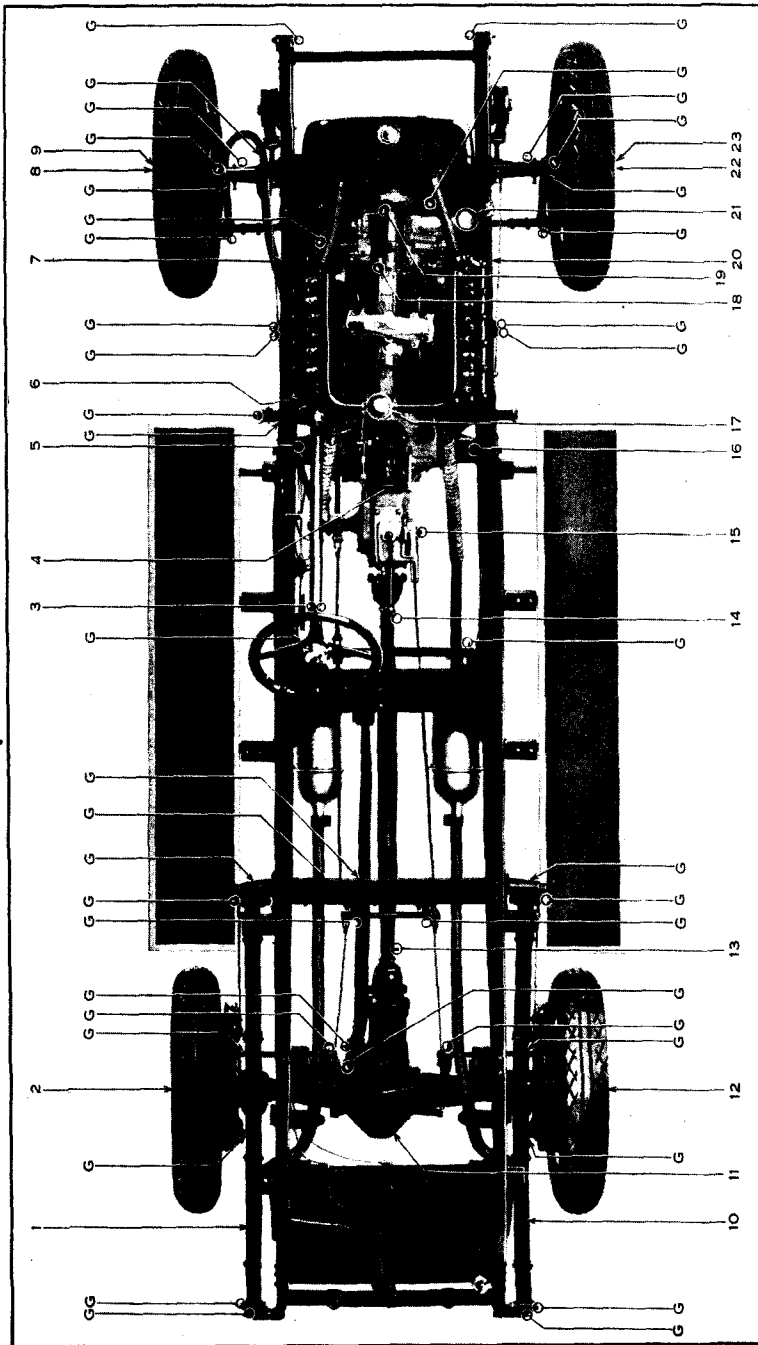

FIGURE 11. Chassis lubrication diagram
The schedule on page 36 is in outline form. Detailed information as to the location of the points to which lubricant is to be applied, the method of lubricating, and the kind and amount of lubricant will be found in Chapters VI and VII. For each point on the schedule, two reference numbers are given: the number of the page on which detailed directions will be found and the number designating the point on the chassis lubrication diagram (Fig. 11).
Spring bolts, steering connections, brake rocker shafts and other points are provided with connections to fit the grease gun supplied with the tool equipment. These points are indicated by "G" in Fig. 11. Cadillac Roller Bearing and Cup Grease should be applied to these points with the grease gun every 500 miles.
The lubricating joint on the clutch thrust bearing is fitted with a screw plug shown at "G" (Fig. 22). To reach this plug, remove the floor boards and the cover plate shown at "F" (Fig. 11) and turn the thrust bearing until the plug is uppermost. Remove the plug with a screw driver, taking care not to drop the plug into the clutch housing. Screw the extension fitting shown at 18A (Fig. 5) into the threaded hole from which the plug was removed. Attach the grease gun to this fitting.
*The numbers following the headings in this chapter and in Chapter III refer to Fig. 11.